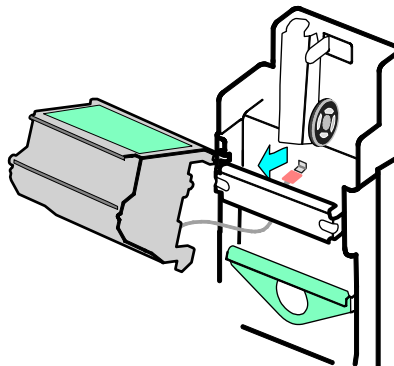

Figure 4-18: Printhead ground cable
- 7 Remove the ground cable connector from the ground tab of the swing arm by pulling on the red sleeve (see Figure 4-18).
- 3 If the printhead has a ground cable, slide the ground cable connector onto the ground tab of the swing arm (see Figure 4-18).